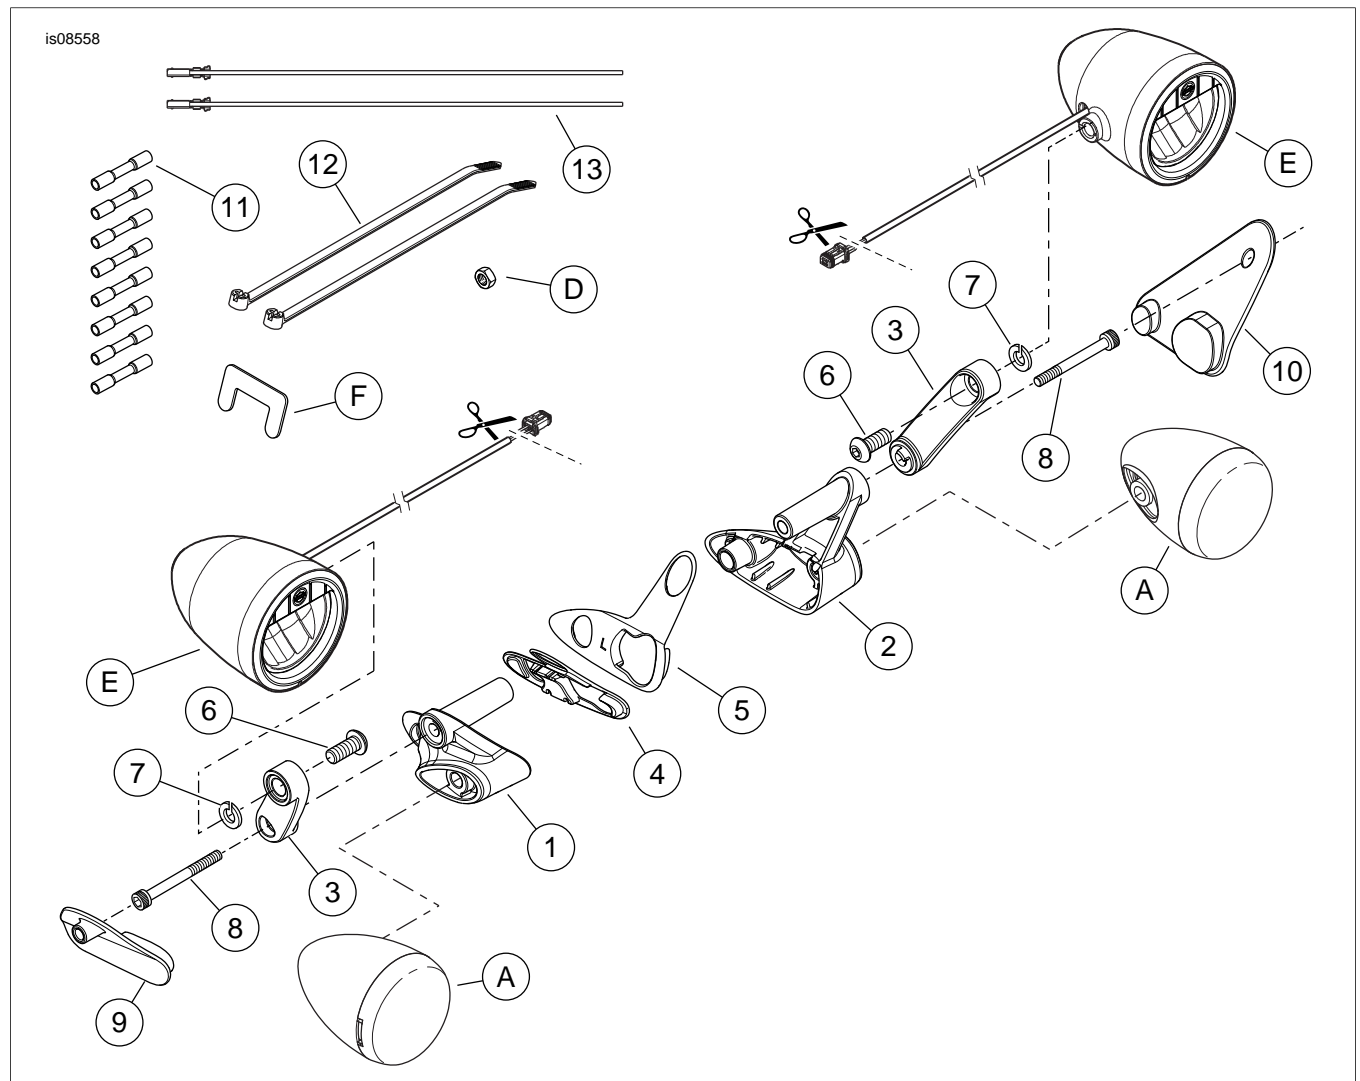

Figure 7. Service Parts, Road Glide LED Auxiliary Lamp Kits
5. See Figure 7. Get the drill guides (9, 10) from the kit. Temporarily position one drill guide into the correct turn signal mounting cavities on one side of the fairing.